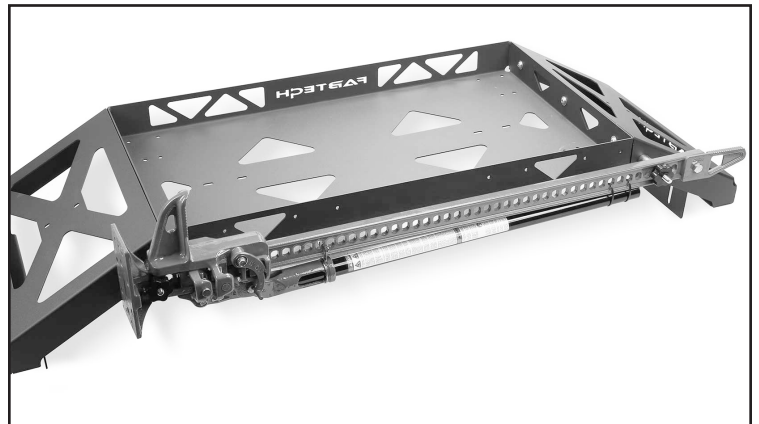

FIGURE 5 - STEP 4
4. Install your HI-Lift Jack (Not Supplied) to the bed rack. Use FT30290 (Sleeve .520" long) on the driver side & outside of the jack then install both FT50826 (Knob) to threaded bolts to secure the jack to the bed rack. **SEE FIGURE 5**